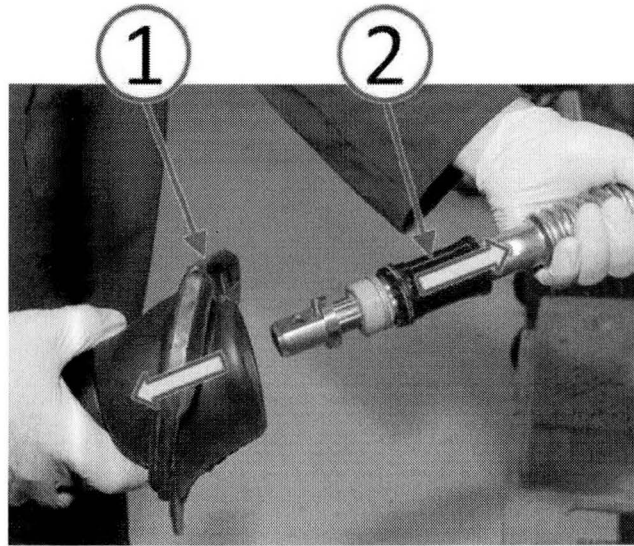

Fig. 2 Remove Boot From Intermediate Shaft
2. Use a quick tug action to remove the intermediate shaft bulkhead pass through boot and outer bearing sleeve assembly (1) from the intermediate shaft inner bearing sleeve (2) (Fig. 2).